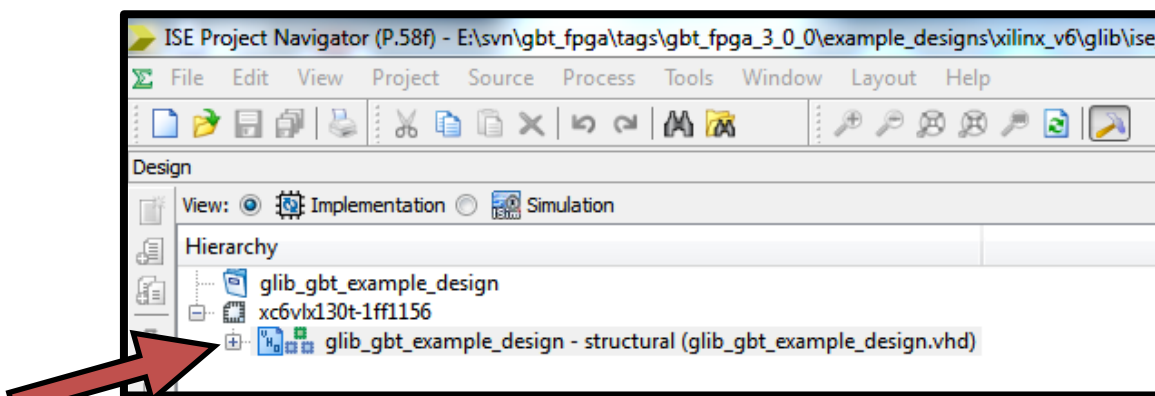
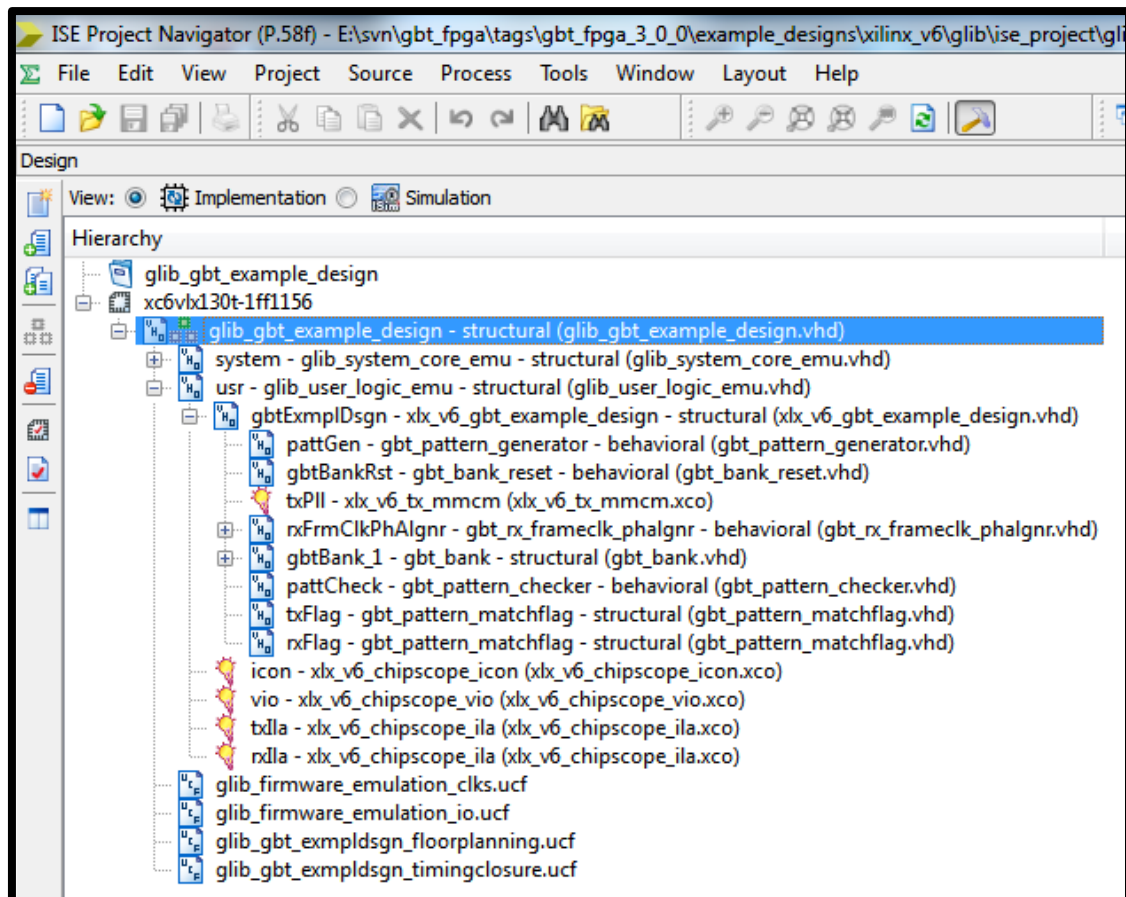

Figure 28: Source files hierarchy collapsed
Figure 29: Source files hierarchy partially expanded
12. Once the project of the GBT-example design is open in ISE, you can expand the hierarchy of the source files by clicking on the "+" sign near the source file names in the "Hierarchy" pane of the "Design" window (see Figure 28 and Figure 29).